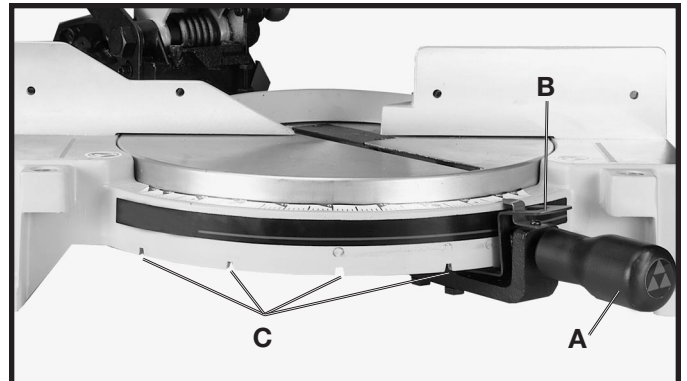

Fig. 14
Your miter saw will cut any angle from a straight 90 degree cut to 47 degrees right and left. Loosen lock handle (A) Fig. 14 one or two turns, depress index lever (B), and move the control arm to the desired angle. **TIGHTEN LOCK HANDLE (A).**
The miter saw is equipped with positive stops at the 0, 22.5, 31.6, and 45 degree right and left positions. Loosen lock handle (A) Fig. 14, and move the control arm until the bottom of the index lever (B) engages into one of the positive stops, four of which are shown at (C). **TIGHTEN LOCK HANDLE (A).** To disengage the positive stop, depress index lever (B).